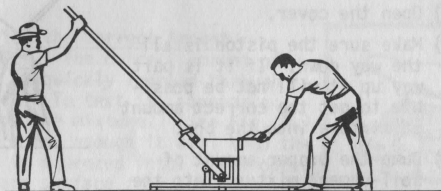

Fig. 11 - Returning the Lever to Rest Position and Opening the Mold Box.
- (10) Move the lever to a vertical position, engage the lever latch and return the lever to its rest position on the lower rollers.
- (11) Open the cover (see Fig. 11).